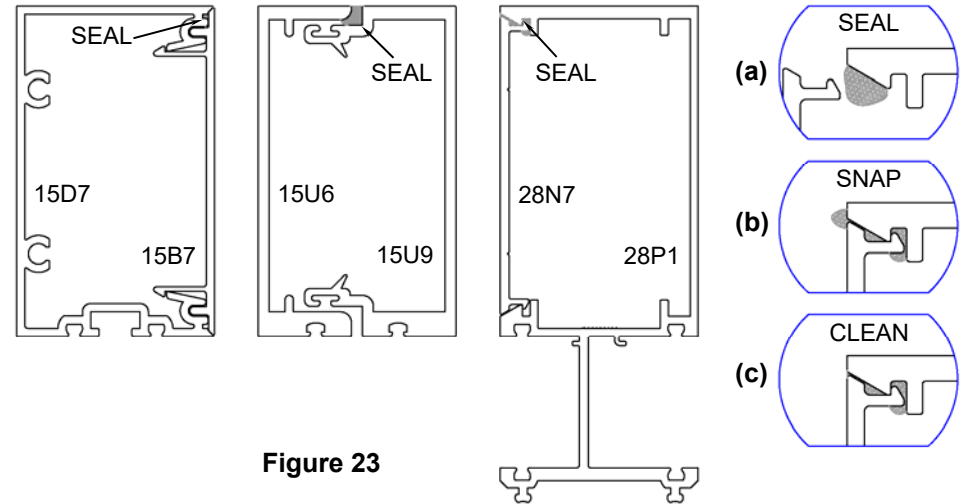

Figure 23
- Prior to installing a two-piece intermediate vertical mullion, apply silicone type sealant to the vertical mullion in the location shown in figure 23 (a) at the interior joints only. Apply the sealant as indicated 6-8 inches up from the bottom of the vertical.
- Apply enough sealant so when the filler or opposite mullion half is installed, it will create a seal. Wipe off the excess sealant from the exposed surfaces. See figure 23 (b) and (c).
- This sealant practice should be followed on all variations of vertical mullions, including the examples shown in figure 23.